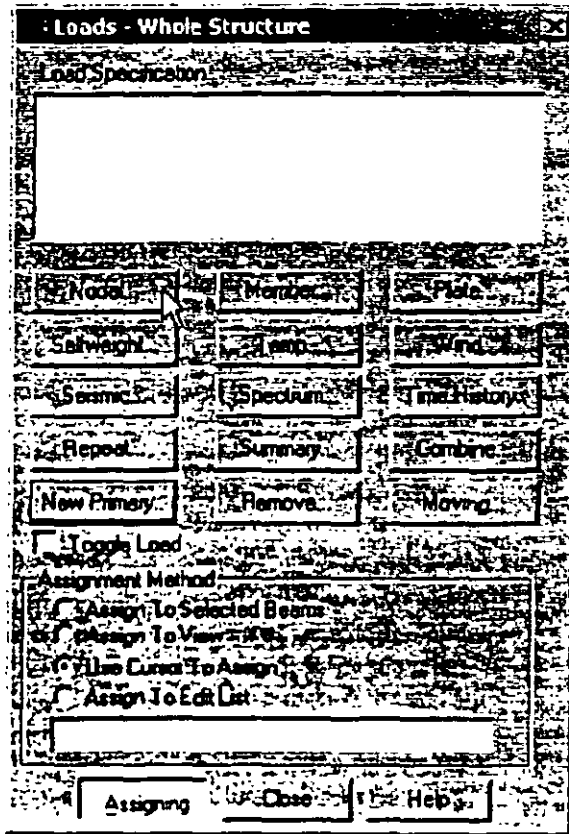

Figure 3.72
- 12 In the *Node Loads* dialog box that comes up, enter *5.0* for *Fx*. We can straightaway click on the *Assign* button to apply these loads on the selected joints. Remember, you can also use the other assignment choices listed in Figure 3.72 depending on the situation.